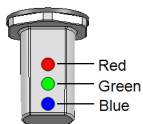

Figure 11: LEDs
- **Inverter LED indicator** (See *Figure 11*): Indicate the inverter statuses as described in the following table: